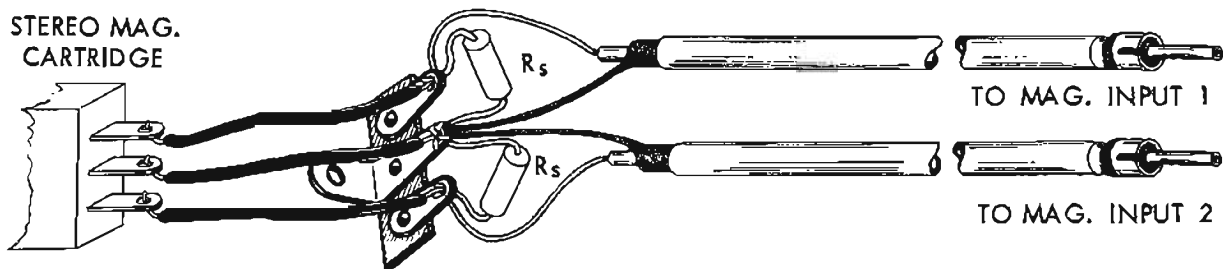

FIG. 3
1) **MAG. PHONO 1, MAG. PHONO 2:** These inputs are intended for the two outputs of a stereo magnetic cartridge, or for a stereo ceramic cartridge with adaptors. The correct method for wiring a three terminal cartridge is shown in Fig. 3. If the cartridge is a four terminal type, short the two inside terminals of the cartridge together and treat it exactly as if it were the single center terminal shown in Fig. 3. The loading presented to each output of the cartridge by each MAG. PHONO input is 100,000 ohms. If a lower loading resistance is required by the particular cartridge used, connect a shunt resistor of appropriate value from each outside terminal of the cartridge to the center (common) terminal. This can be done actually by mounting a 3-post terminal strip on the underside of the phonograph mounting board at a point near the lead break-out from the pickup arm. These shunt resistors are then wired to this terminal strip as shown in Fig. 3. The value of each of the two shunt resistors (R_s) can be determined from the desired loading resistance (R_l) by this formula